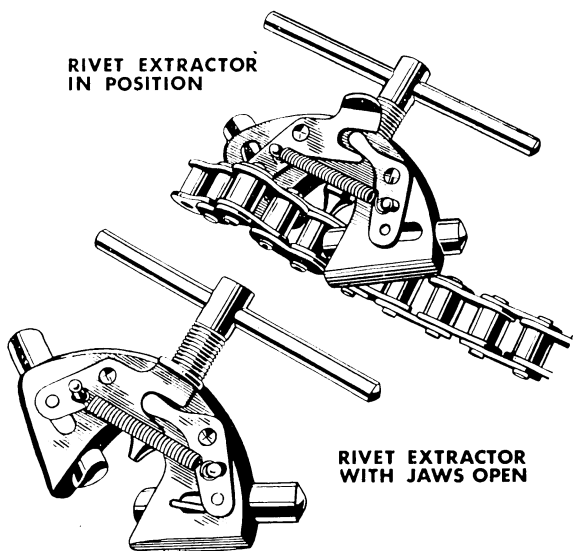

Fig. 19-15 Chain breaker (Triumph Norton Incorporated)
**Chain Length Changes.** If you have kept your chain well lubricated and properly adjusted, you probably won't ever have to repair it or replace any sections. However, changes in sprocket sizes often require that several pitches be added or removed. If you should have occasion to repair, lengthen, or shorten a chain, a rivet extractor or chain breaker and a few spare parts is all that is necessary. A chain repair kit is available at your cycle shop and costs only a few dollars. The chain breaker can also be obtained at the cycle shop. Avoid small, cheap, flimsy chain breakers. Buy only those rivet extractors that are heavy enough to give a lifetime of reliable service. There's nothing quite as frustrating as a broken chain rivet extractor. To use the chain breaker, retract the drive pin by turning the screw counter-clockwise until the jaws can be placed around the chain roller. Allow the spring to clamp the jaws around the roller and drive the pin from the chain by turning the screw clockwise (Fig. 19-15). You should remove two adjacent pins from the chain